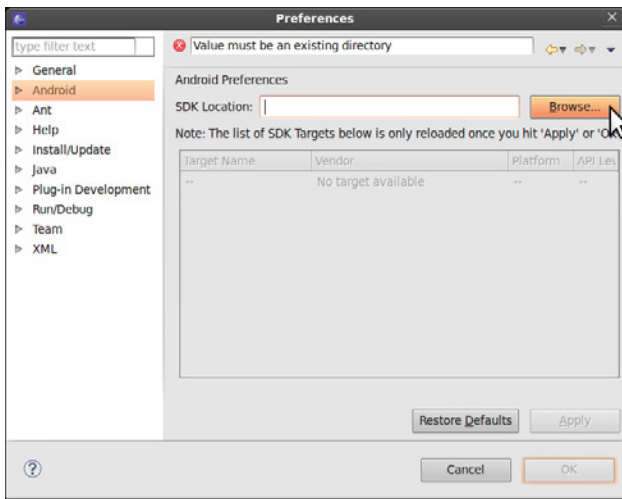
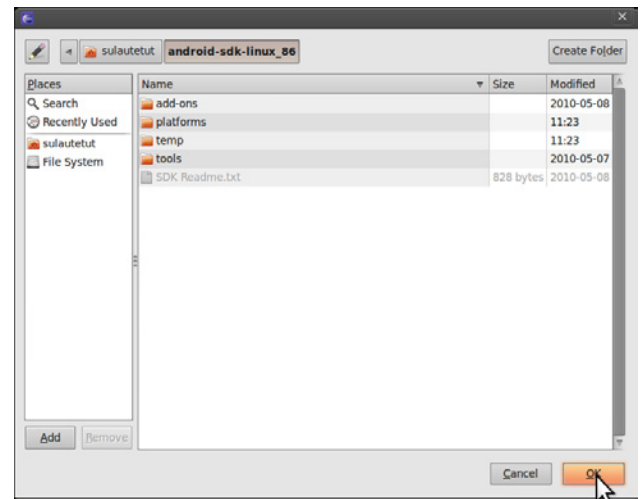

Figure 6-10. Pointing Eclipse to the Android SDK directory
Figure 6-11. Locating the Android SDK in the home directory where you downloaded it
3. Click the Browse button to the right of the SDK Location field (see Figure 6-10) and navigate to the directory where you installed the Android SDK earlier. Select that directory and click OK, as shown in Figure 6-11.